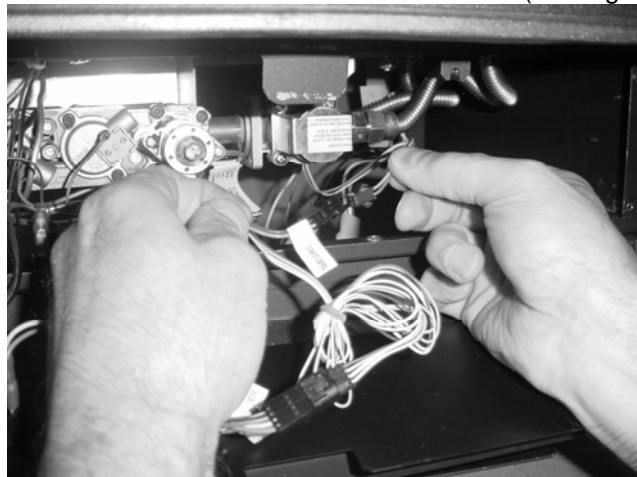

Figure 22
- 14 Attach the wiring harness to the comfort control valve connection (see Figure 22).